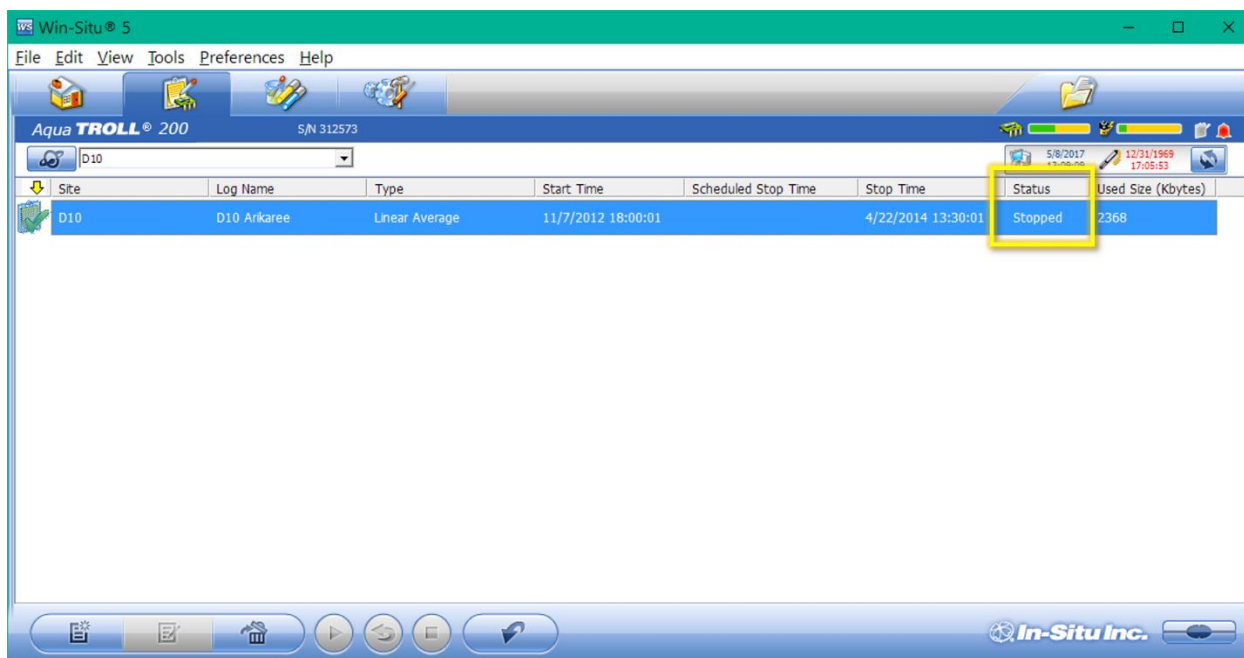

Figure 24. Verify Logging Stopped
15. Confirm the sensor is no longer logging data. The file status should change to “Stopped” when logging is disabled (Figure 24).